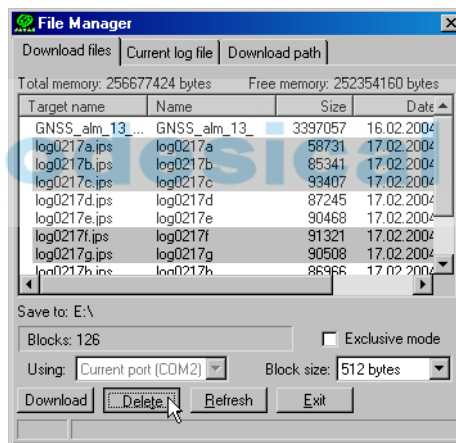

Figure 4-7. Delete Files
5. On the **Download files** tab, select the file(s) you want to delete (Figure 4-7).
6. Click **Delete** (Figure 4-7).